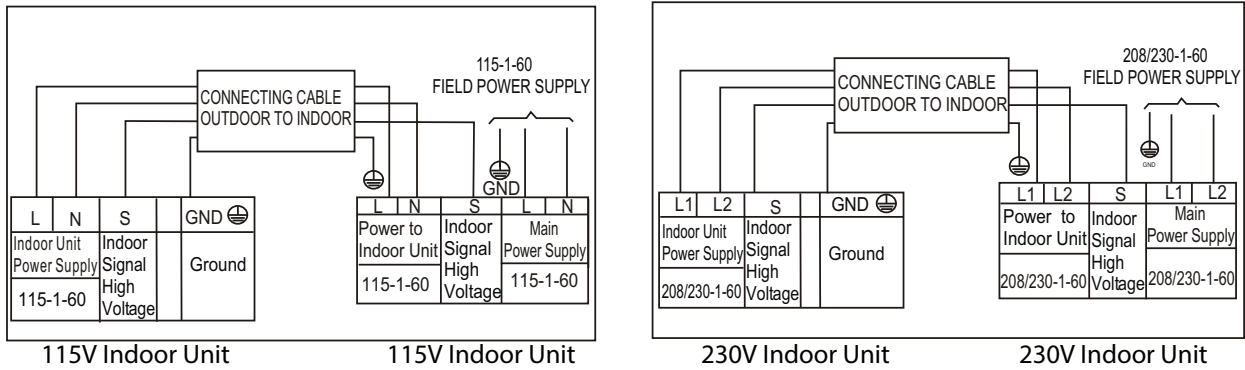
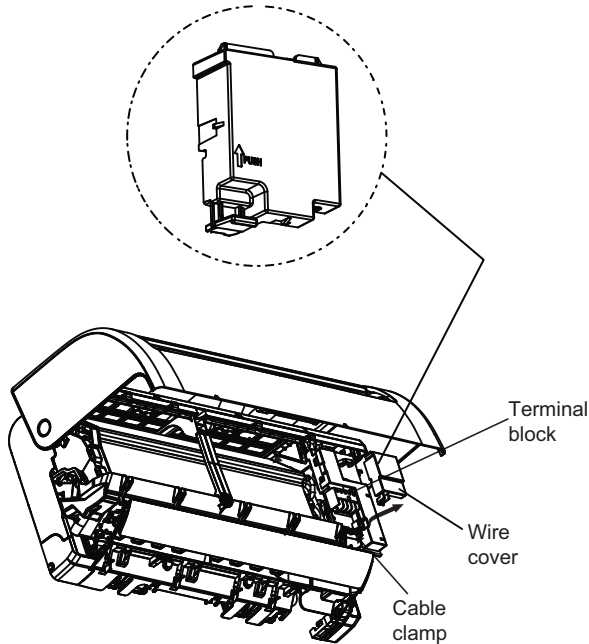

Fig. 17 – Connection Diagrams
Fig. 18 – Wiring Diagram Location
9. Connect wiring from outdoor unit per connection diagram (see Fig. 17 and Fig. 18).